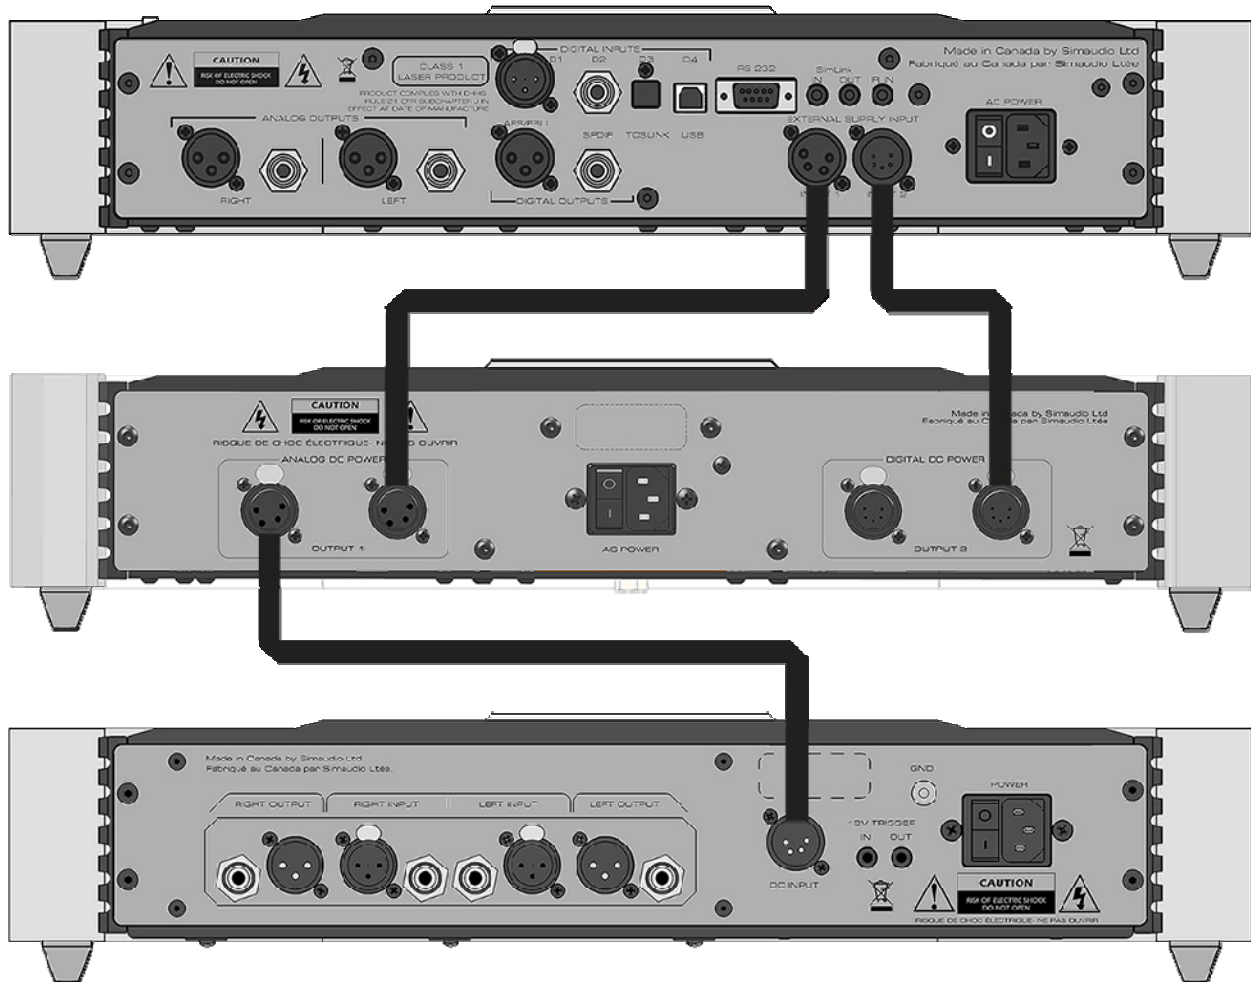

Figure 2: Connecting the 820S to other MOON Evolution components
2. Connect the 4-Pin XLR cable between one of the 4-pin XLR outputs labeled “Output 1” on the rear panel of the **820S** and the corresponding 4-Pin XLR input on your MOON Evolution component, as shown in figure 2 on the next page.
3. If applicable, connect the 5-Pin XLR cable between one of the 5-pin XLR outputs labeled “Output 2” on the rear panel of the **820S** and the corresponding 5-Pin XLR input on your MOON Evolution component, as shown in figure 2 on the next page.
Notes: (i) The example in figure 2 on the next page shows a 750D DAC/ CD Transport (top) connected to an **820S** (middle) by both a 4-Pin XLR cable and a 5-Pin XLR cable, as well as a 610LP Phono Preamplifier (bottom) connected to the **820S** with only a 4-Pin XLR cable. (ii) When using the **820S**, the rear panel rocker switch on any connected component(s) is bypassed. (iii) When no components are connected to the **820S**, it will automatically go into standby mode after 20 minutes.